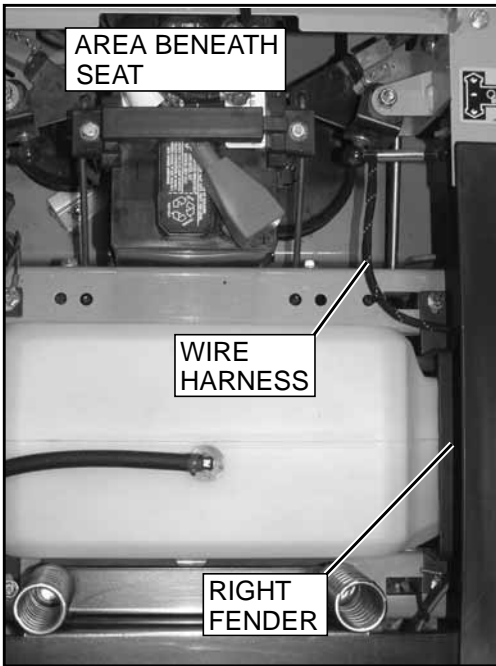

FIG. 3
6. Route the new wire harness from the inside area beneath the seat through the opening in the bottom of the right fender into the instrument panel opening. (Fig. 3).